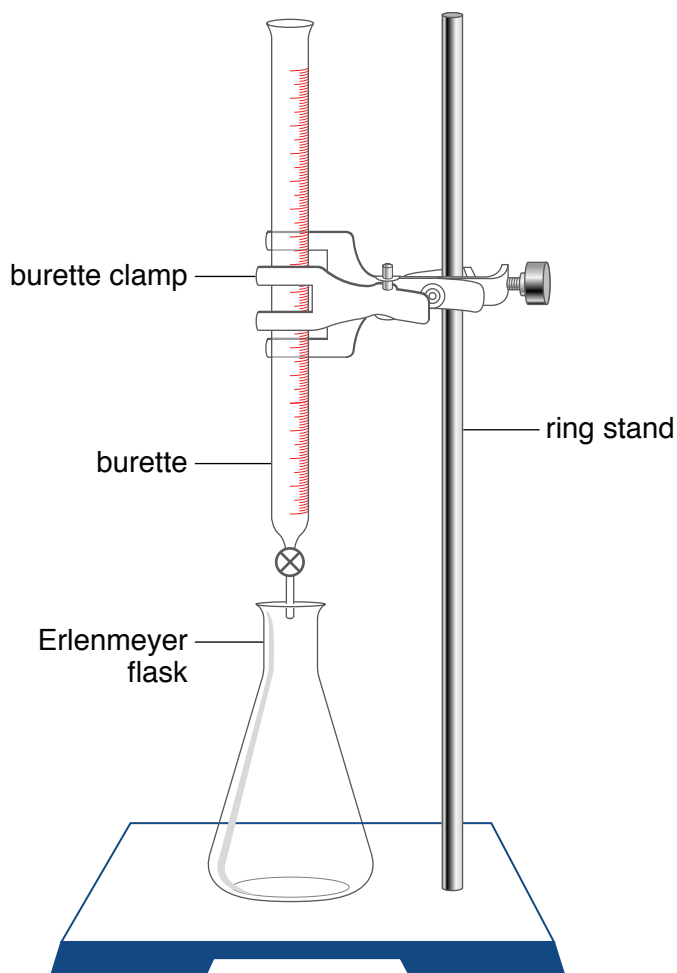

Figure 2
4. Set up a burette on a ring stand using a burette clamp (see Figure 2) and fill the burette with standardized silver nitrate.